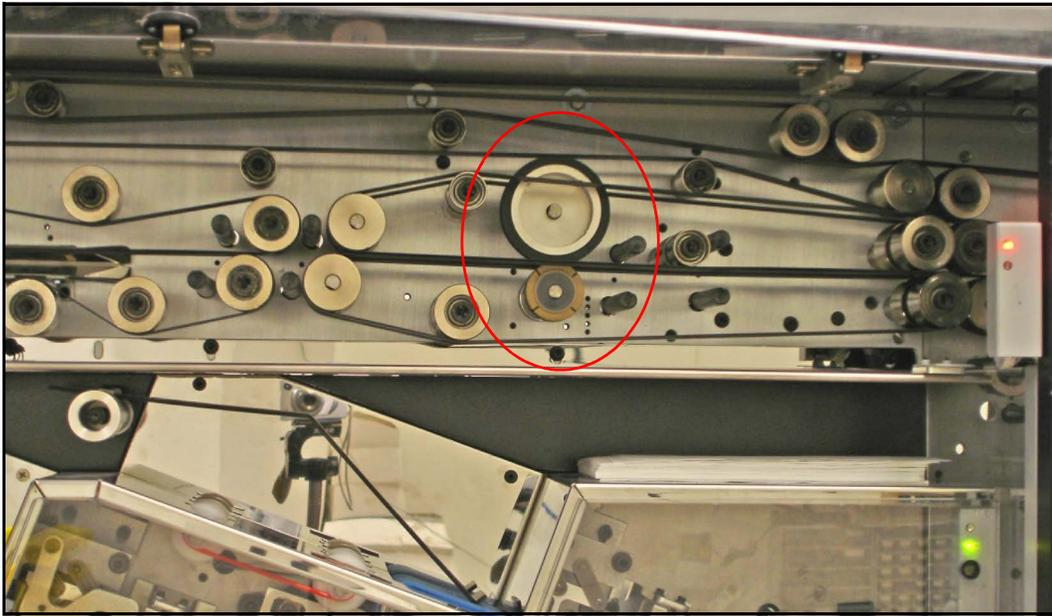

Figure 6-4: Singulator tires
- Clean the singulator tires (Figure 6-4).